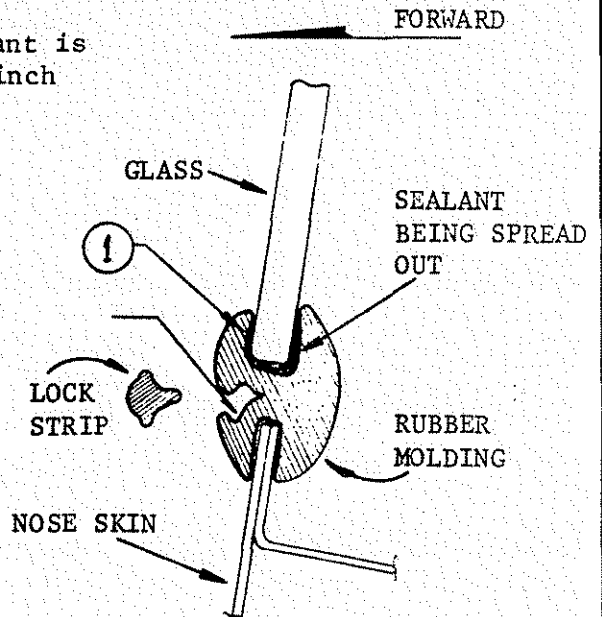

FIGURE 2
- E. Inspect area 1 (Fig. 2); If no sealant is present, add an extra one sixteenth inch bead of sealant.